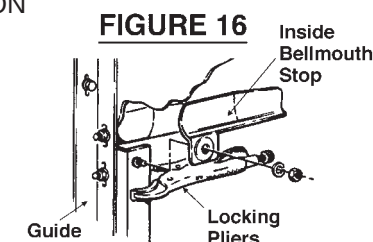

FIGURE 16
- Place locking pliers on LH & RH guides as shown at 2 to 3 inches below the top of the guides. See Figure 16.
- If the guides are not flared, install curtain bellmouth stops on guides. A stud is attached to the guides to hold the bellmouth. Be certain the back of the bellmouth is flush against headplate. See Figure 16.